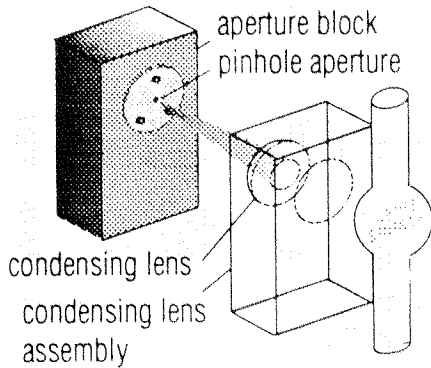

Figure 2.8
The xenon lamp used in the Lightwave Research Emulator is a *short-arc xenon lamp*. The entire light output of this powerful lamp occurs within a very small arc created by two electrodes located in the center of the pressurized quartz envelope of the lamp. This brilliant 'arc,' not unlike a welder's arc, must be positioned correctly in front of the condenser. This correct positioning is achieved through a process called *Optimization*. This is accomplished by turning the three adjustment t-screws located under the lamp base (See Fig. 2.9) to create the brightest possible point of light over the pinhole aperture. (See Fig. 2.8) To achieve a sharp-edged circle of light which is strong and even across the beam, it is equally important to adjust the focus t-screw found near the front end of the fixture under the focus lens (See Fig. 2.9). The intense point of light at the pinhole aperture is then concentrated to create the familiar laser-like effect that the fixture can achieve. **If the point of light is even *slightly* off, the difference in the final output intensity of the Emulator fixture can be significantly reduced. The optimization process is the most crucial setup adjustment for the Emulator.** If you feel you are having difficulty with the optimization process, or would like further assistance, please contact your High End Systems Dealer or HES Service at (512) 837-3063.